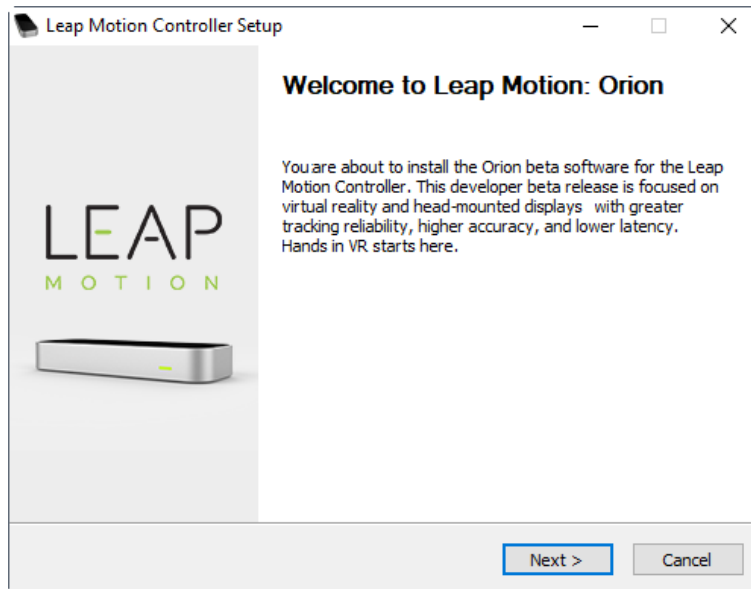

Figure 5.106 The Leap Motion Installation Interface
- Step 2** Install the Leap Motion driver software by following the on-screen instructions, as shown in Figure 5.106.